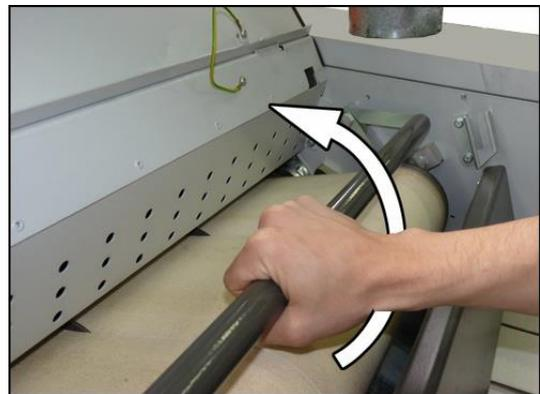

Fig. 11.2
4. Move the bar activating the release mechanism in the direction of the arrow (Fig. 11.2). The pressure roller will move and reduce the tension of the ironing straps.